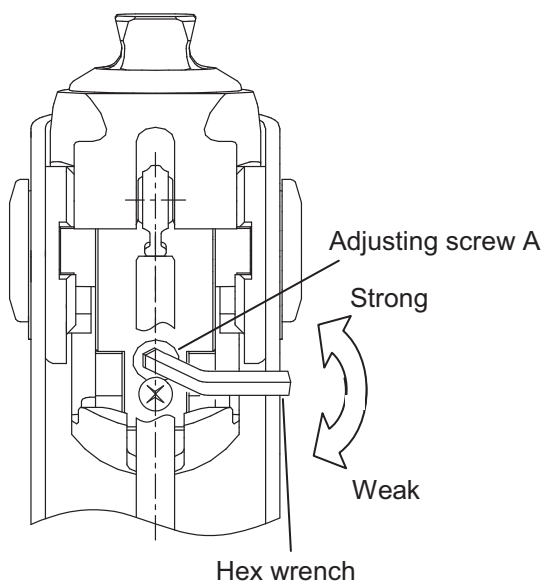

Figure 1: Load brake adjustment procedure
- ① Conduct adjustment of the adjusting screw A from the rear of the knee joint (as shown in Figure 1) while the user(amputee) is standing.
- ② When the adjusting screw A is turned clockwise, the braking effect will reduce, and when it is turned counterclockwise, the braking force will increase.
- ③ Do not hit the hex wrench against the rod of pneumatic cylinder.
- ④ The maximum brake effective knee bending angle should be 50 to 60°. However, the user (amputee) may set any required angle less than this.
- (3) After adjusting the brake, walk quickly, walk on a downward slope or walk down stairs if possible, and confirm that the brake is not applied when the tip of toe leaves the floor. If the brake catches, gradually reduce the braking force to achieve correct adjustment.